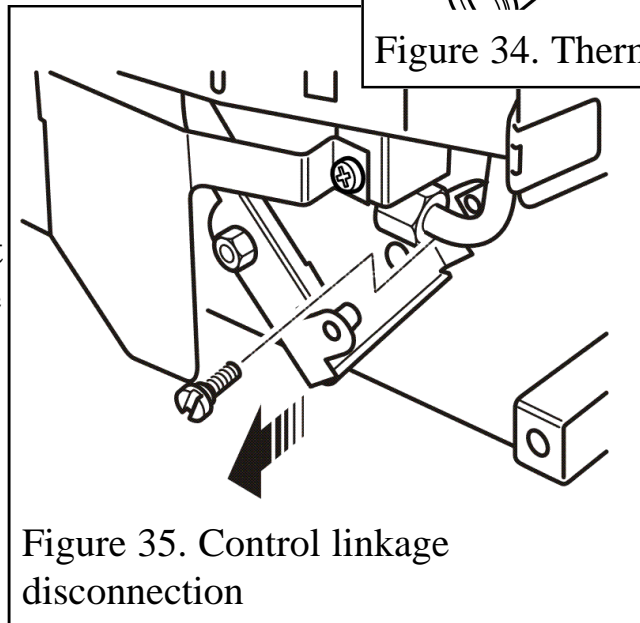

Figure 35. Control linkage disconnection
2. Detach the control-linking bar from the control pivot bracket by removing the knurled screw, which joins the control linking bar to the control pivot unit (See figure 35).